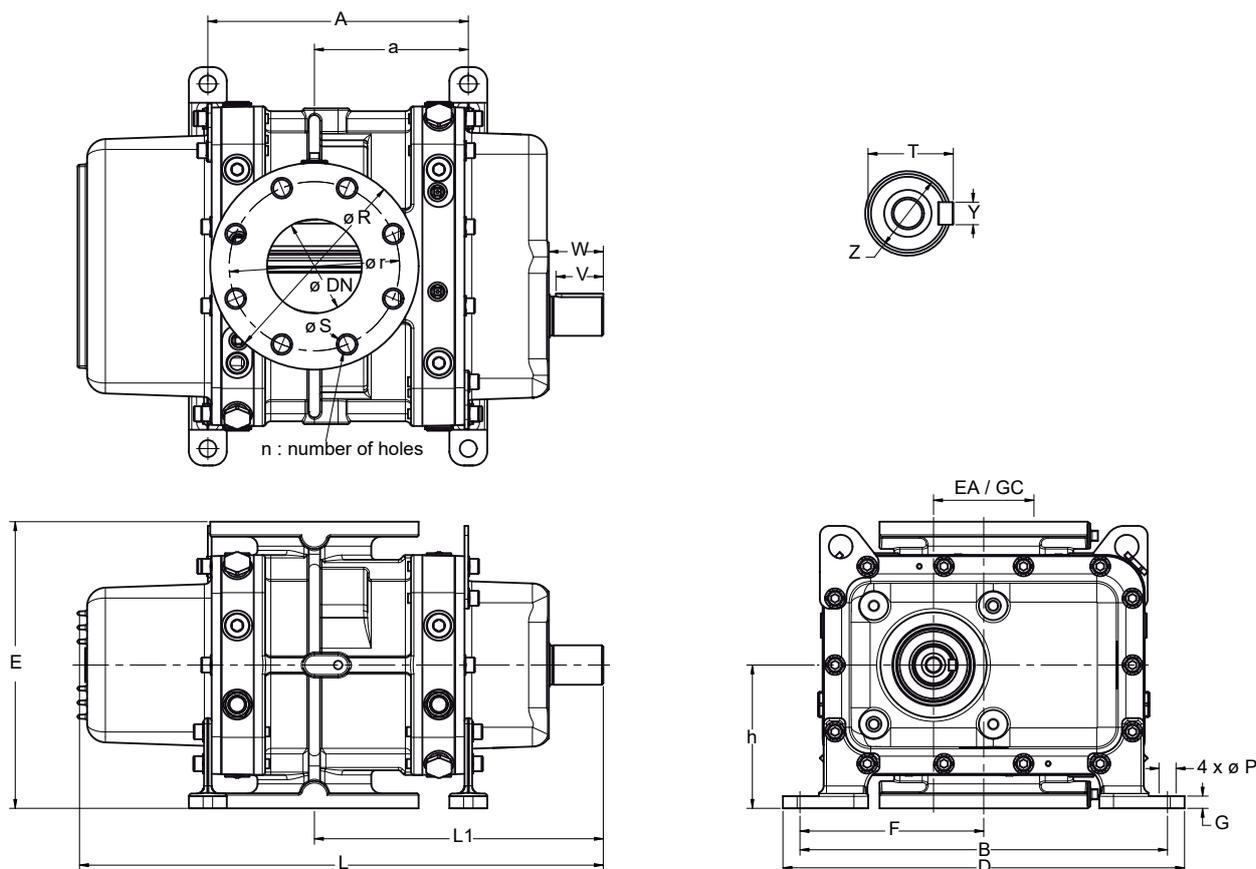

Figure 3 - Left and Right Hand blower dimensions
"Figure 3 Key"	Dimensions
- You must design a suitable pipeline to fit the blower inlet/outlet connections. refer to Section 2.8 and to Figures 3 and 4 for the dimensions of the blower connections.